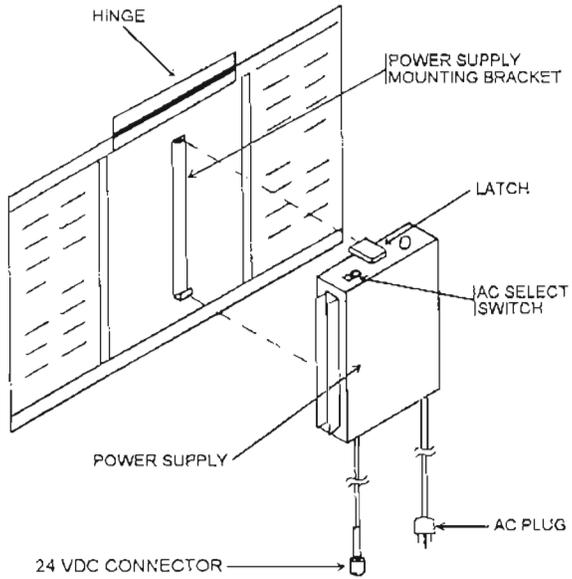

Figure 3-12. Power supply.
a. The rectifier is designed specifically to provide the power to operate the refrigerator from a 120 VAC or 220 VAC, 50/60 Hz in sheltered environments. The input voltage is selectable by the AC select switch of the power supply (fig 3-12).